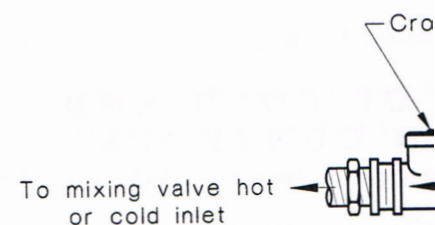

FIGURE 3.1 TYPICAL I:
- (b) Each thermostatic mixing valve shall have an isolating stop tap/valve, line strainer and cross-flow prevention device (non-return) valve fitted to the heated and cold water supply lines as shown in Figure 3.1.